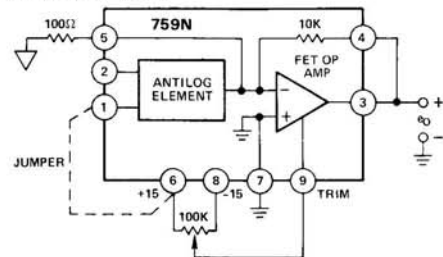

Figure 5. Trimming  $E_{OS}$  in Antilog Mode
**Offset Voltage ( $E_{OS}$ ) Adjustment** – Although offset voltage of the antilog circuit may be balanced by connecting it in the log mode, and using the technique described previously, it may be more advantageous to use the circuit of Figure 5. In this configuration, offset voltage is equal to  $e_{OUT}/100$ . Adjust for the desired null, using the 100k trim pot. After adjusting, turn power off, remove the external 100 $\Omega$  resistor, and the jumper from Pin 1 to +15V. For 759P use the same procedure but connect Pin 1 to -15V.